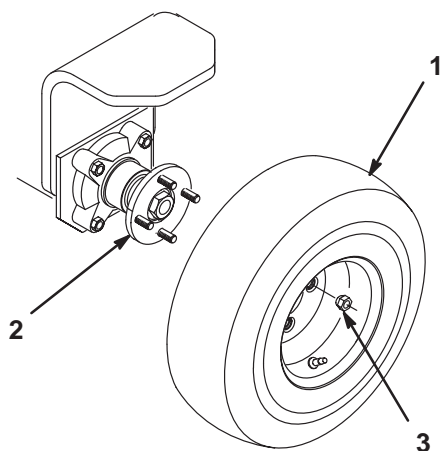

Figure 2
1. Mount the wheel assembly onto the rear wheel hub (Fig. 2).
2. Install the lug nuts (Fig. 2) and tighten them to 45–65 ft.-lb. (3–5 N·m).